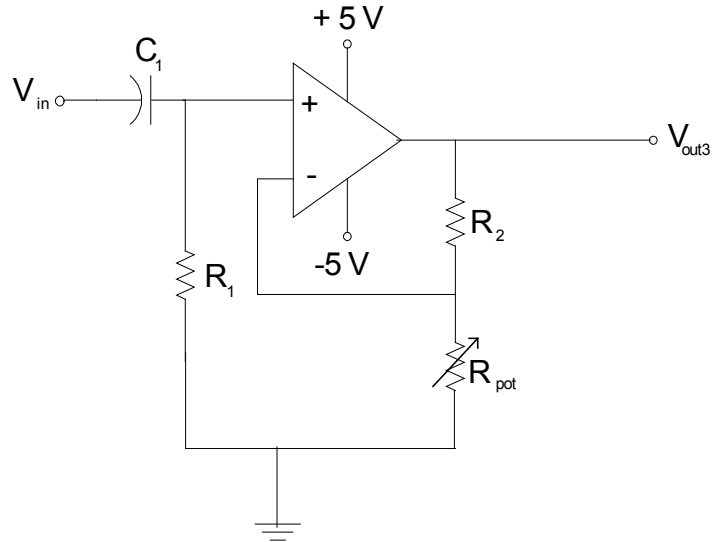

Figure 2- Baseband amplifier schematic
Once the radio signal has been pre-amplified and demodulated, an amplifier circuit is used to provide gain to the resulting audio signal. To do this, a circuit like the one shown in Figure 2 can be used. The topology is based on a non-inverting amplifier, and allows manual gain control through a potentiometer.
- 1.2.3 Derive the gain equation of the circuit shown in Figure 2. Perform the analysis both for C_1 neglected, then when it is taken into account. How does C_1 affect the gain of the circuit?
Assemble the amplifier circuit shown in Figure 2, and adjust the potentiometer so that its in-band gain be 150 V/V. Ensure that the input amplitude is sufficiently small so that the amplifier operates within its linear region. You may have to use a voltage divider on the input signal to achieve that. Demonstrate the following: